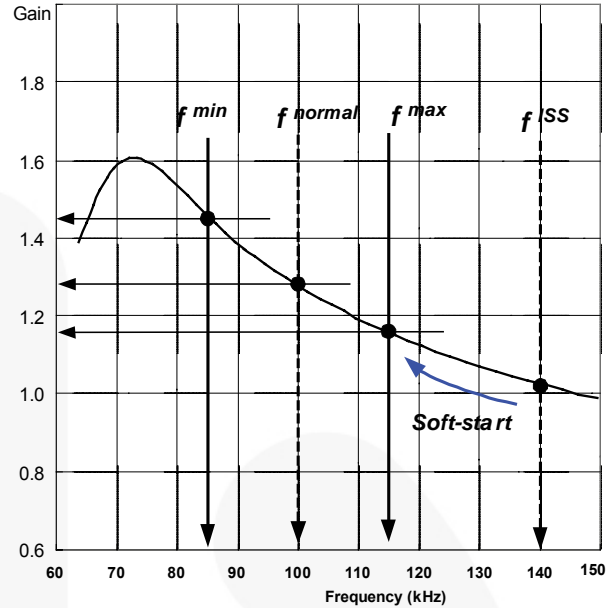
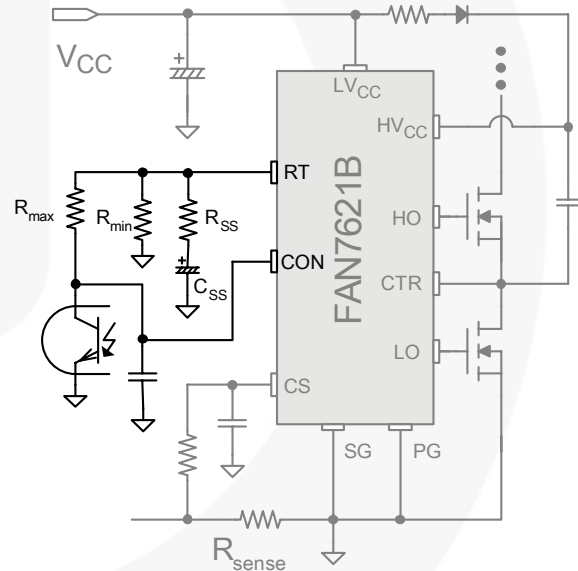
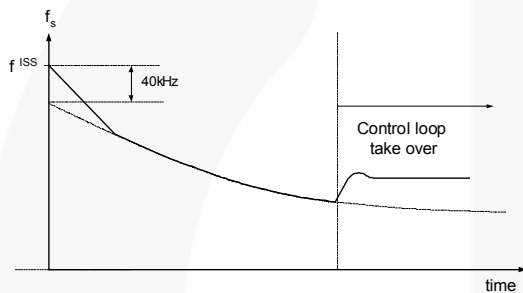

Figure 18. Resonant Converter Typical Gain Curve
Figure 19. Frequency Control Circuit
Figure 20. Frequency Sweeping of Soft-Start
3. Frequency Setting: Figure 18 shows the typical voltage gain curve of a resonant converter, where the gain is inversely proportional to the switching frequency in the ZVS region. The output voltage can be regulated by modulating the switching frequency. Figure 19 shows the typical circuit configuration for R_T pin, where the opto-coupler transistor is connected to the R_T pin to modulate the switching frequency.
proportional to the switching frequency, the soft-start is implemented by sweeping down the switching frequency from an initial high frequency (f^{ISS}) until the output voltage is established. The soft-start circuit is made by connecting R-C series network on the R_T pin, as shown in Figure 19. FAN7621B also has an internal soft-start for 3ms to reduce the current overshoot during the initial cycles, which adds 40kHz to the initial frequency of the external soft-start circuit, as shown in Figure 20. The initial frequency of the soft-start is given as: